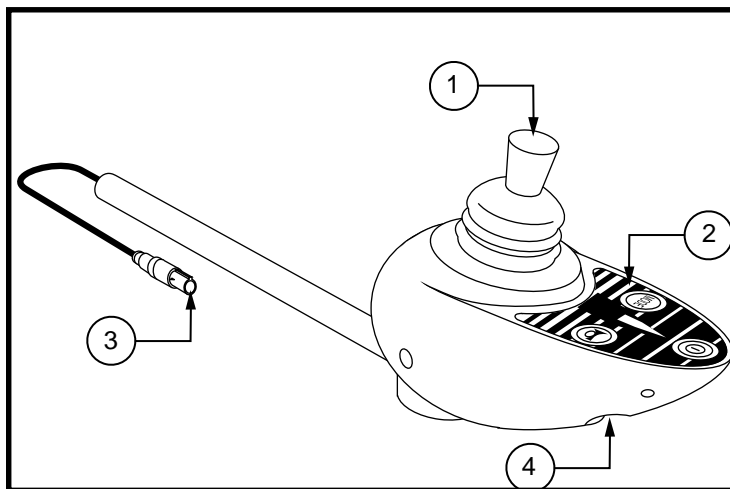

Figure 23. Remote Plus Master Remote
- master remote (see figure 23.)